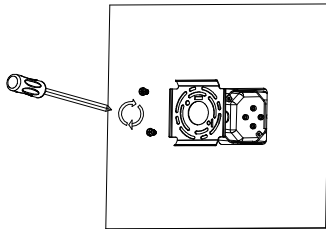

Fig 2
2. Use a Phillips screwdriver tool with a torque of 1 Nm to secure the mounting plate with two screws, which fit to the mounting plate and junction box. (Fig 2)